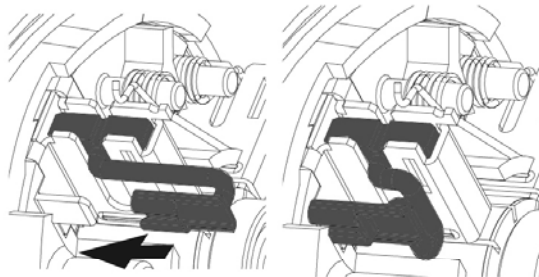

Fig.7
(7). The terminals are inserted back to right and left sides by arrow direction. ( See Fig.7)